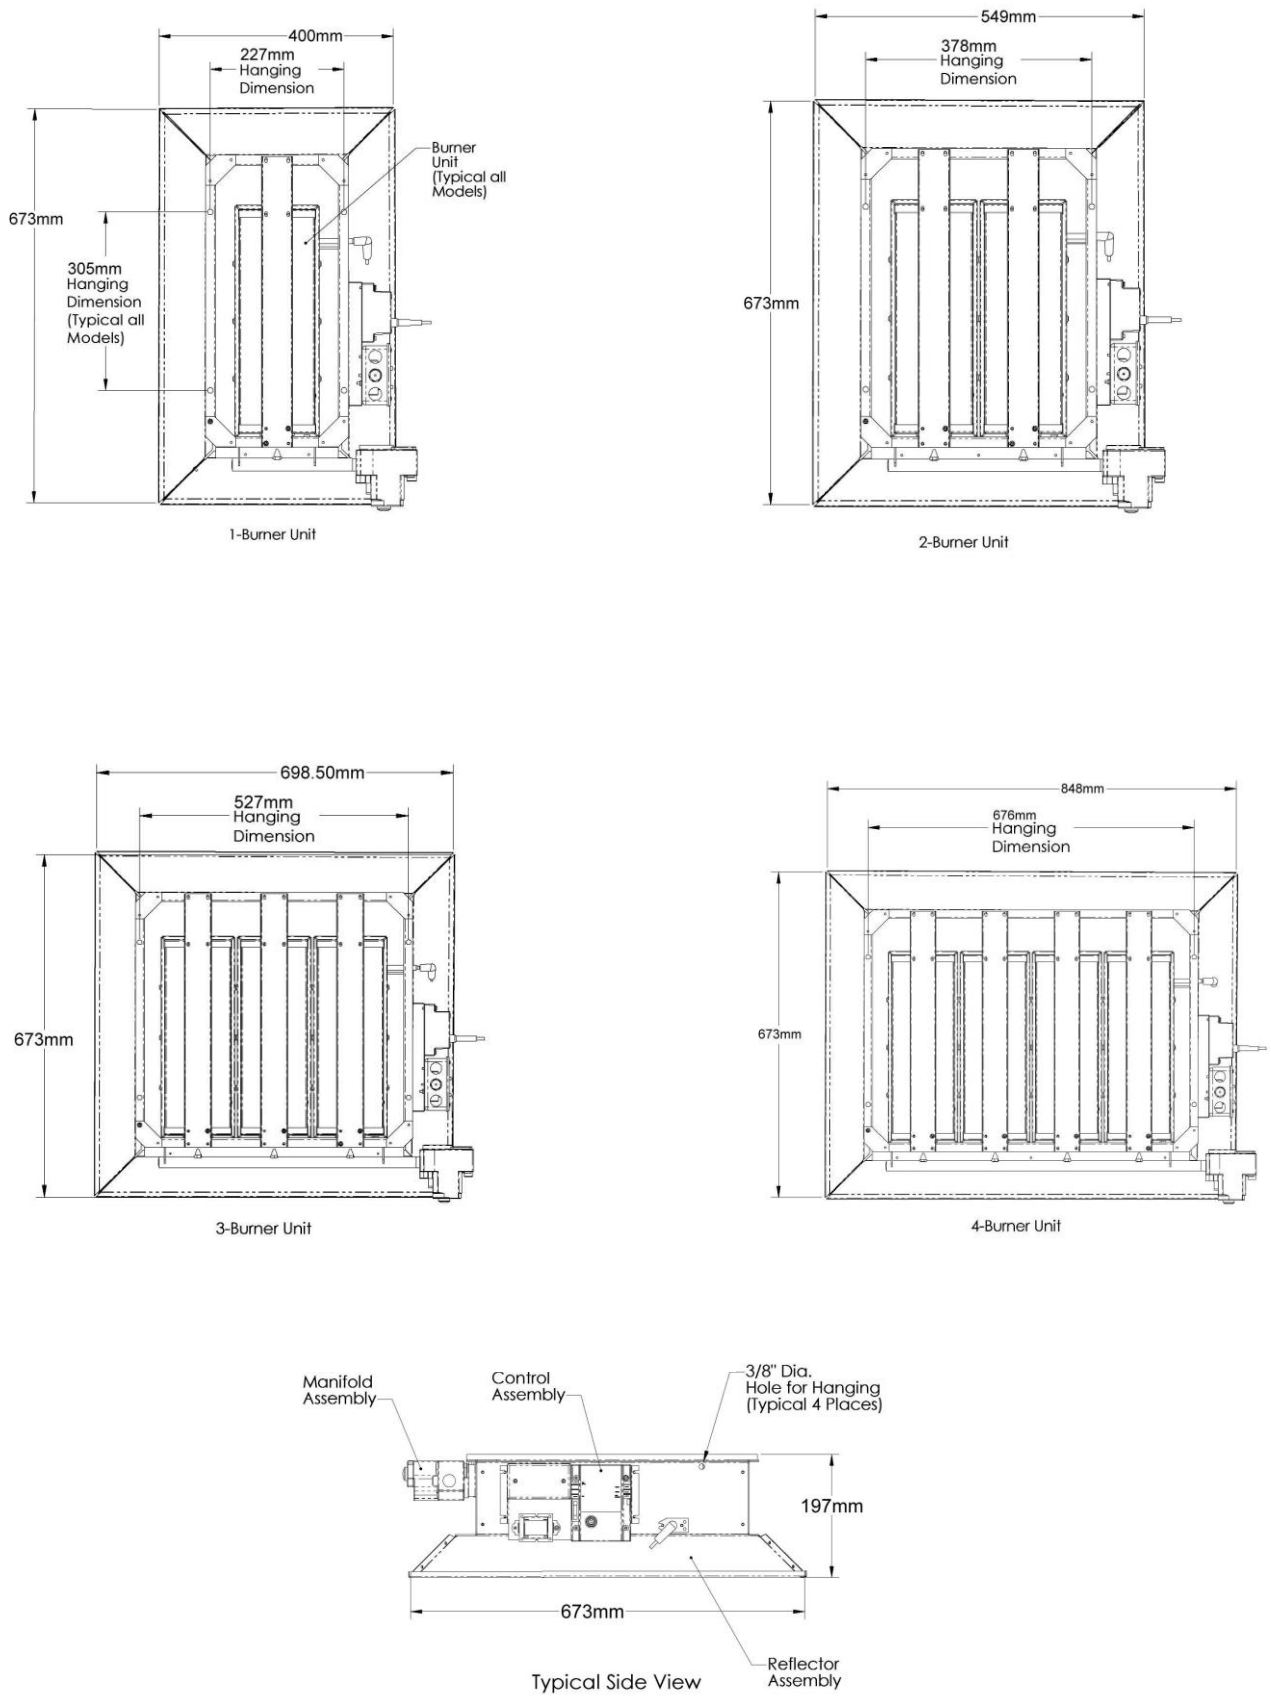

Fig. 1
3.1.2. For suspending the appliance, it is recommended that suitable protected welded chain ($\varnothing 3\text{mm} \times 65$ links/m) or $\varnothing 6\text{mm}$ (minimum) mild steel drop rods and suitable brackets are used. Attach the chains or drop rods to the 4 holes located in the Side Frame Panels (as shown in Fig.1.), by use of M8 screws and nuts. Providing at least $\varnothing 5\text{mm}$ closed link hooks are used, chains may be attached directly to the 4 holes in the appliance Side Frame Panels, providing that the hooks are manually crimped closed by the installer.